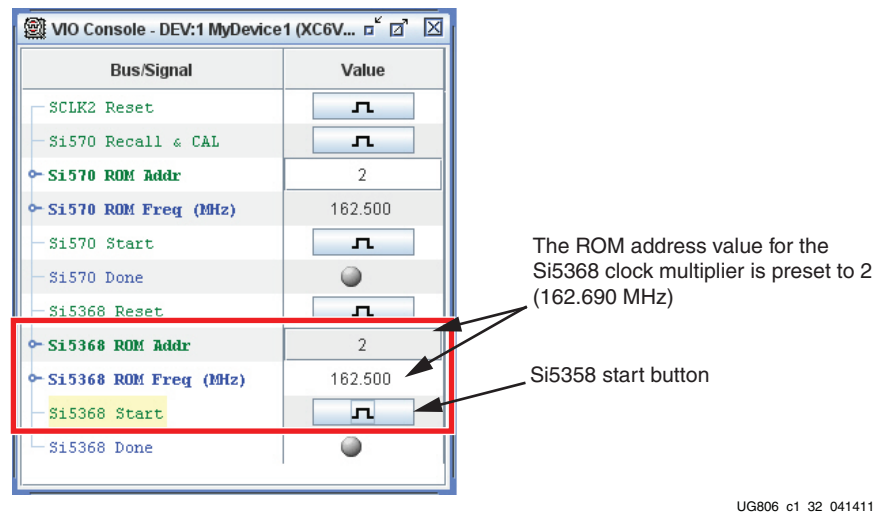

Figure 1-32: Si5368 Address, Frequency and Start Button
2. The clock sources on the SuperClock-2 module are controlled from the VIO Console. Click on the **Si5368 Start** button (Figure 1-32) to enable the clock output.